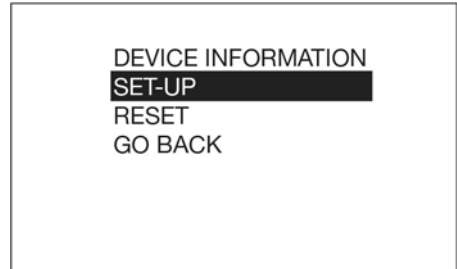

FIG. 12
3. Select the SET-UP option (FIG. 12).